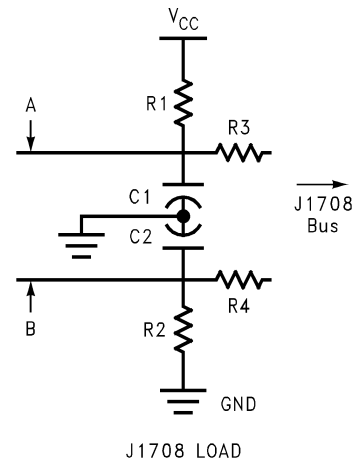

FIGURE 3. Node Load Circuit
The recommended implementation for a SAE J1708 load is shown in *Figure 3*. The recommended implementation for a SAE J1708 system using a standard RS-485 transceiver, such as the DS75176B (see *Figure 4*), is shown in *Figure 7*. The circuitry between the bus and the transceiver differs from RS-485 and is intended to provide several features:
The resistor and capacitor values are as follows and are shown in *Figure 3*:
The drivers used by SAE J1708 are used in a dominant mode application. The driver’s input (DI) is tied LOW and the signal (Tx) to be transmitted is tied to the driver’s enable. The enable (DE) is active HIGH for the DS75176B while the enable (DE*) for the DS36277 is active LOW. First, this information is very important because this tells us that the driver is only capable of driving LOW. Therefore, a logic level LOW is encoded as “dominant”. When the driver is disabled, the bus is pulled high by external bias resistors R1 and R2 (as shown in *Figure 3*). Thus, a logic level HIGH is encoded as “recessive”. Second, if the driver’s enable is active LOW, then you will transmit positive logic. But, if the driver’s enable is active HIGH you will transmit negative logic. SAE J1708 is only defined for positive logic. Therefore, to implement a SAE J1708 application using DS75176B, which has an active HIGH driver enable, an inverter is needed for the driver enable (see *Figure 4* and *Figure 6*). However, the active LOW driver enable pin on the DS36277 saves the user an externally needed inverter (see *Figure 5*).
The external components shown in *Figure 3* provide the necessary bias for a logic High “recessive” state. SAE J1708 requires no additional external components other than the J1708 load. This means that no parallel termination can be used at the ends of the SAE J1708 bus. The required loading also provides failsafe protection.